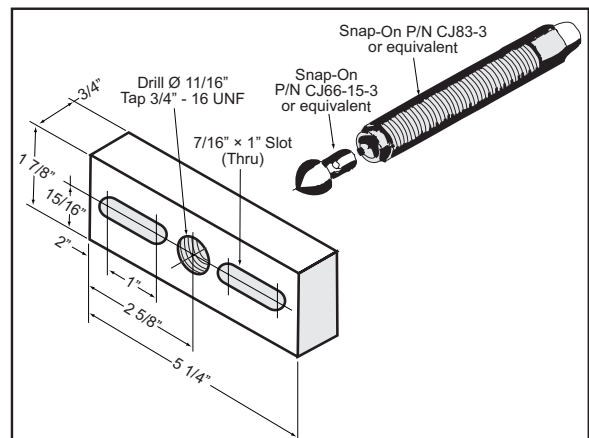

Figure 6. Bar Puller Illustration
5. Rotate unit. Remove bolts and washers from rotor shafts on the gear end. Remove the timing gear bolts completely from the driven rotor. Remove the timing gear from the rotor shaft by using a gear puller. See figure 6. Rotate the gear as it is being removed to prevent binding. Inspect gear teeth for wear and pitting. Inspect rotor shaft keyway for wear and damage.
7. Use 4 jacking screws on the endplate, apply even pressure to the jack screws to push the end plate from the housing. Remove screws. Remove retainer plate. Push rotors out of gear end endplate. Remove bearings and remove bearing shield. Save shims and measure for proper clearance for rebuilding the unit. Remove seal assembly from the endplate. OR Using a large Arbor press, orient the blower drive shaft down, supported by the ports and use a straight bar (such as a puller bar shown in figure 6) to put even pressure on the gear end of the rotors. Once the rotors are pressed to flush with the bearings, insert metric bolts in to the rotor or use a spacer slightly smaller than the shaft diameter to press the rotors through the bearings. Save shims and measure for proper clearance for rebuilding the unit. Remove seal assembly from endplate. Reverse the machine to drive shaft up and press each rotor free from the Drive End endplate.